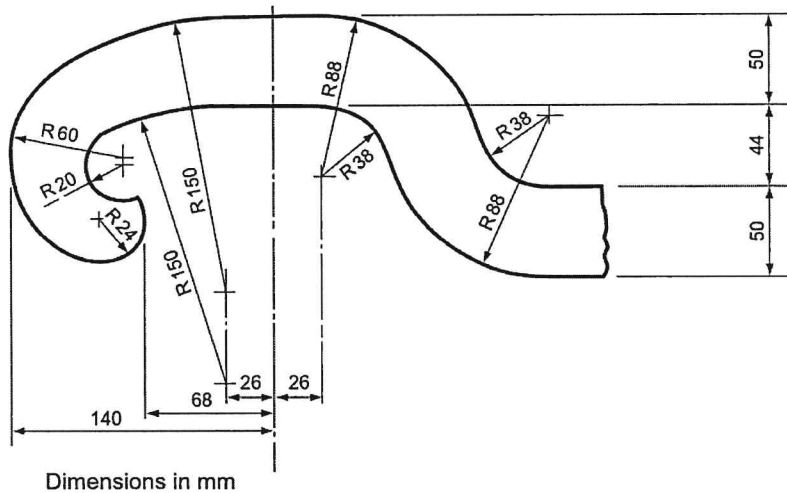

Figure 2
3. Using proper line work and to a scale of 1:1, Draw figure 2, observing all the drawing regulations